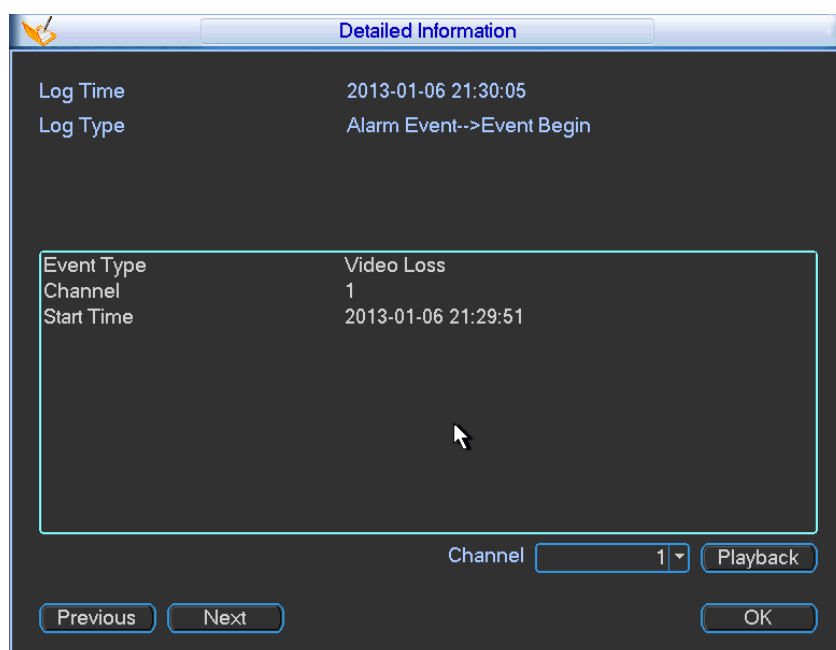

Figure 5-70
- Details: Click the Details button or double click the log item, you can view the detailed information. See Figure 5-70. Here you can use rolling bar to view information, or you can use Page up/Page down to view other log information. For the alarm event log such as video loss, you can click the Playback button at the bottom right corner to playback.